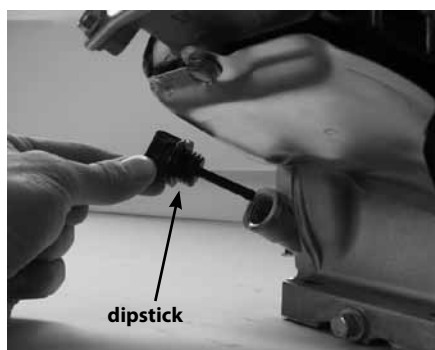

FIGURE 2
3. Reinstall drain plug. Remove dipstick (if applicable) or oil fill cap. **SEE FIGURE 2.**